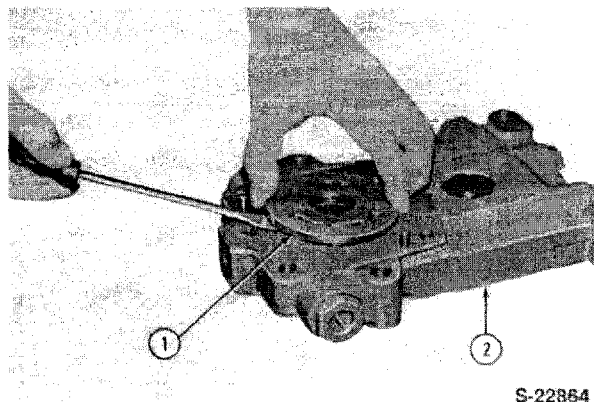

Figure 44
3. Remove valve plate, Figure 44.